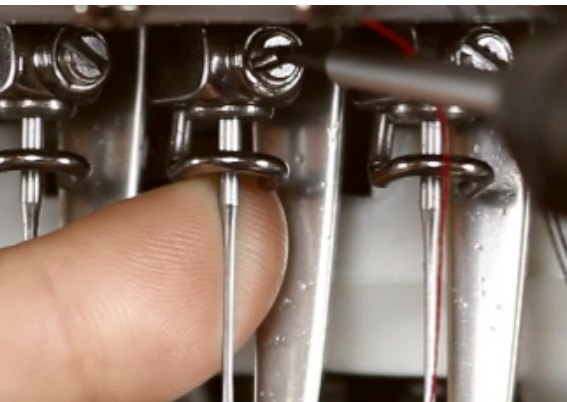

Figure 113
5. Verify that the long groove of the needle is still facing forward. Tighten the needle screw while holding the needle firmly to keep it from slipping down. **See Figure 113.**